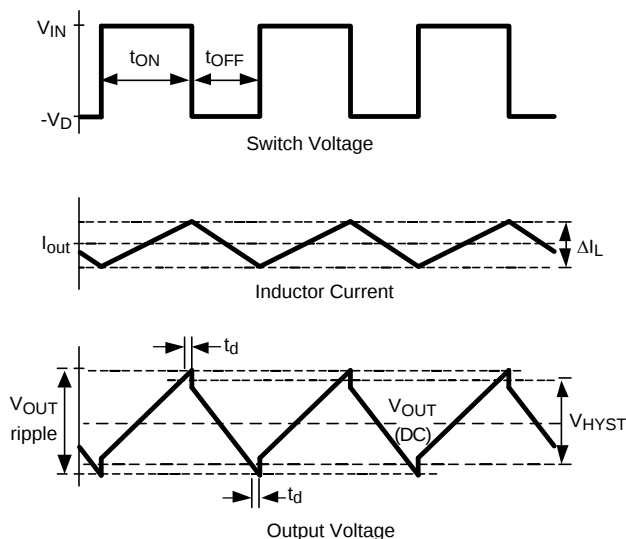

Figure 12. Hysteretic Waveforms
With the PFET on, the input supply charges C_{OUT} and supplies current to the load through the PFET and the inductor. Current through the inductor ramps up linearly, and the output voltage increases. As the FB voltage reaches the upper threshold (reference voltage plus hysteresis) the output of the comparator goes high, and the PGATE turns the PFET off. When the PFET turns off, the catch diode turns on, and the current through the inductor ramps down. As the output voltage falls below the reference voltage, the cycle repeats. The resulting output, inductor current, and switch node waveforms are shown in Figure 12.
- $t_{off_{min}}$ is the sum of the blanking time, the propagation delay time, and the PFET delay time (see Figure 12)
Capacitors with high ESL (equivalent series inductance) values should not be used. As shown in Figure 12, the output ripple voltage contains a small step at both the high and low peaks. This step is caused by and is directly proportional to the output capacitor's ESL. A large ESL, such as in an electrolytic capacitor, can create a step large enough to cause abnormal switching behavior.